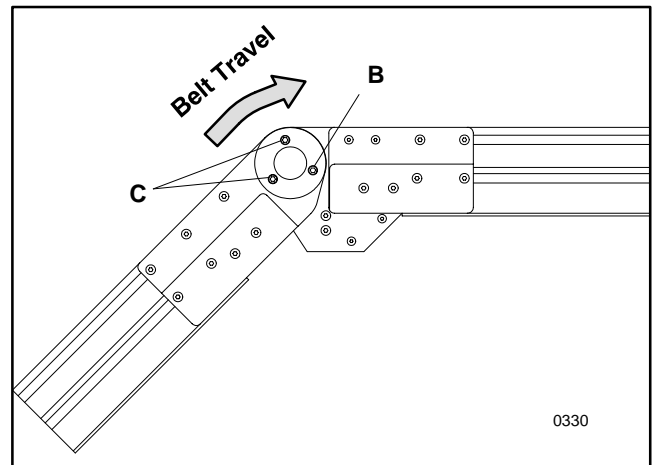

Figure 6: Sample Nose-over or Upper Z-Frame Angle Adjustment Detail
2. Refer to Figure 6 and remove and retain the special-colored, “0° Angle” screws (B) from the pivot discs on both sides of the conveyor.